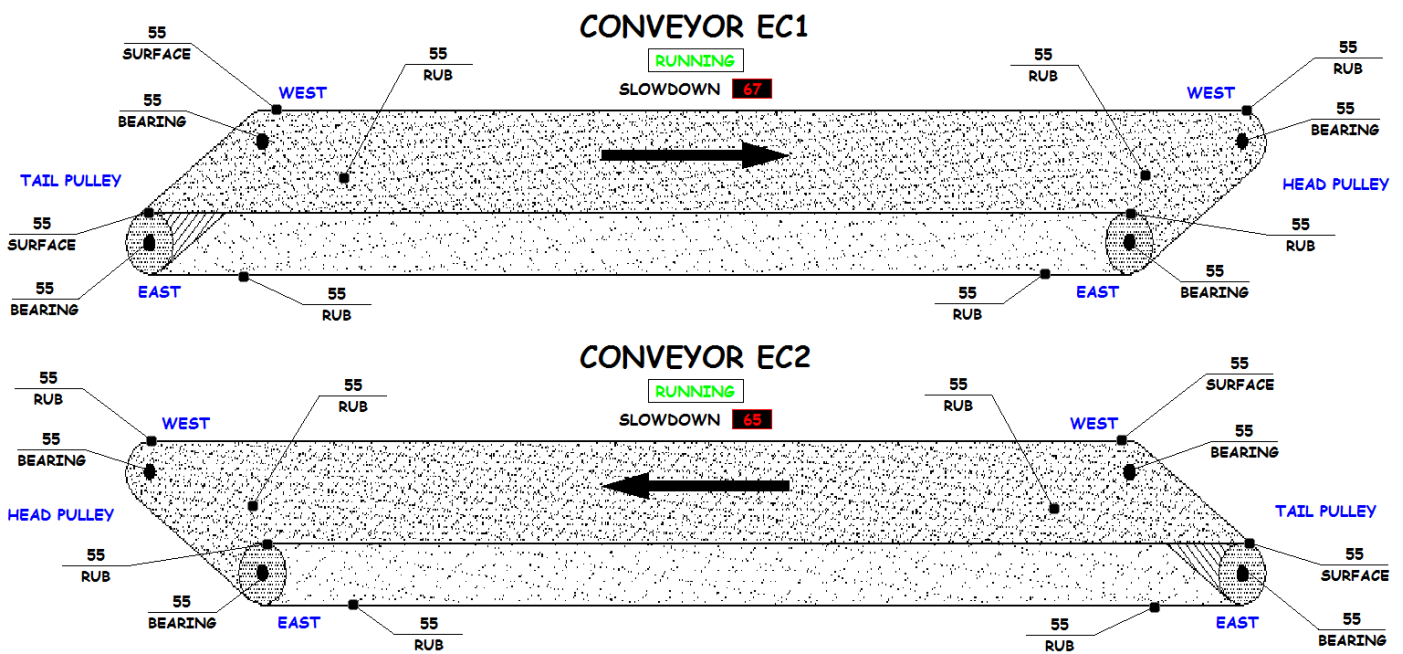

Figure 1 - Showing Hazard Monitoring Screens
- All Hazard Monitoring Screens display a representation of the piece of equipment. This representation has all monitored bearing and rub points, defined (Figure 1).